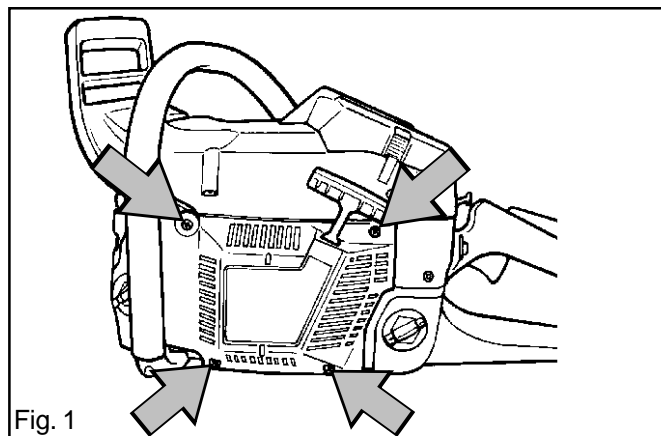

Fig. 1
1. Remove the four bolts holding the starter to the crankcase and remove the starter. See fig. 1.